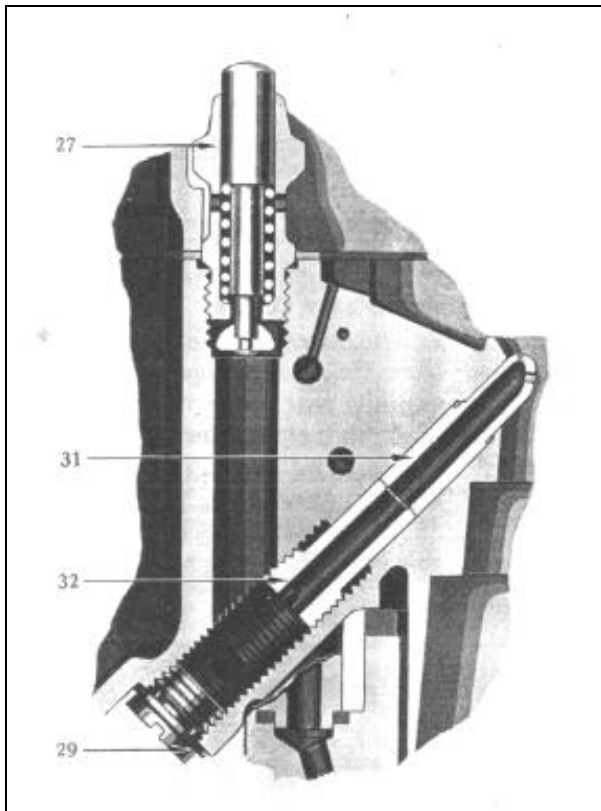

Figure 426
(106) Remove both nozzle retainer plugs (32) and nozzles (31) (Figure 426). Nozzles are just pressed in and are held by retainer plugs; use nozzle puller included in J-819-B Kit.
(131) Install both main nozzles (31) using new nozzle gaskets (Figure 426); screw nozzle on puller (included in Tune-up kit) with small hole in nozzle facing up to insert. (Be sure old nozzle gaskets have been removed from casting.) Then install nozzle retainer plugs (32). Then install nozzle plug (29) and gasket assemblies. If nozzles are damaged, replace. (Be sure only one gasket is used on each nozzle.)